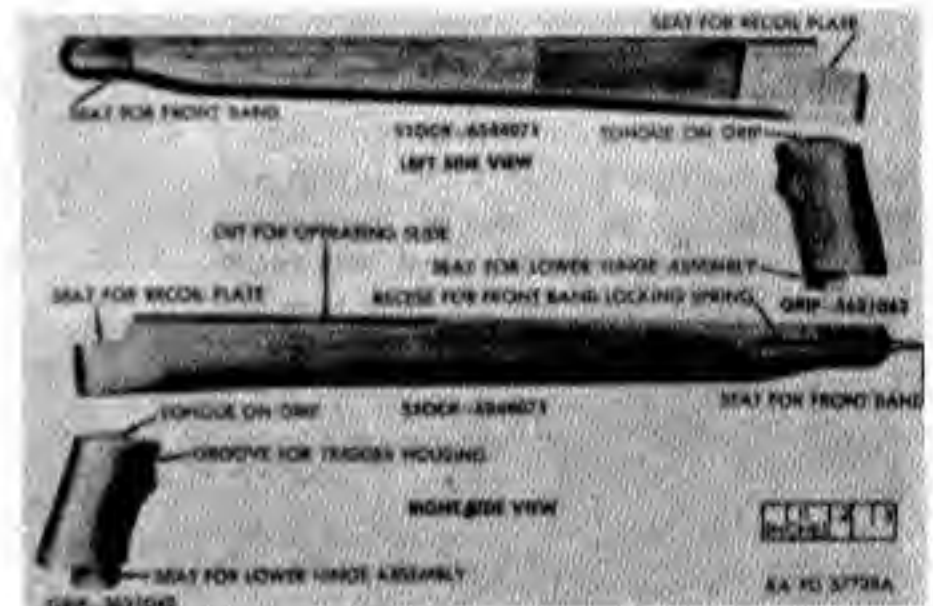

Figure 106. Stock and grip for carbine M1A1.
a. Inspect corresponding parts of stock as for carbines M1, M2, and M3 (Figs. 106 and 107). Refer to page 90.